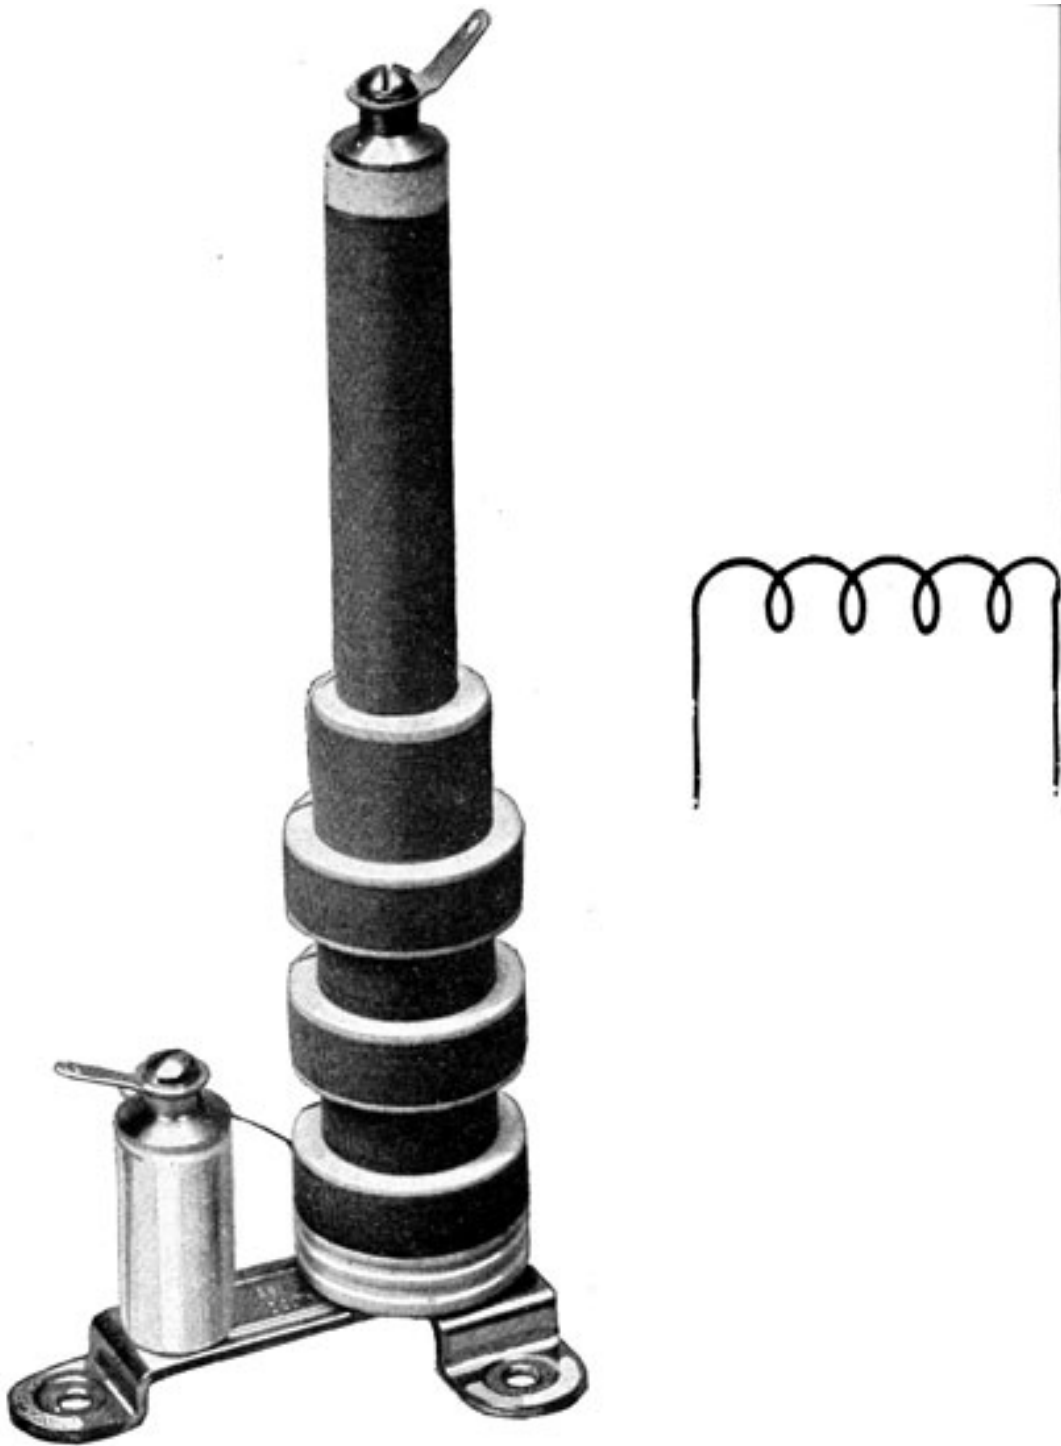

**Figure 77.-Radio frequency choke.
R.F. coils have a greater variety of shapes and sizes than a.f. types. Some of the windings are of fine wire; others are made of large copper tubing with the individual turns widely spaced. Figure 77 shows the schematic symbol and one example of an r.f. choke.